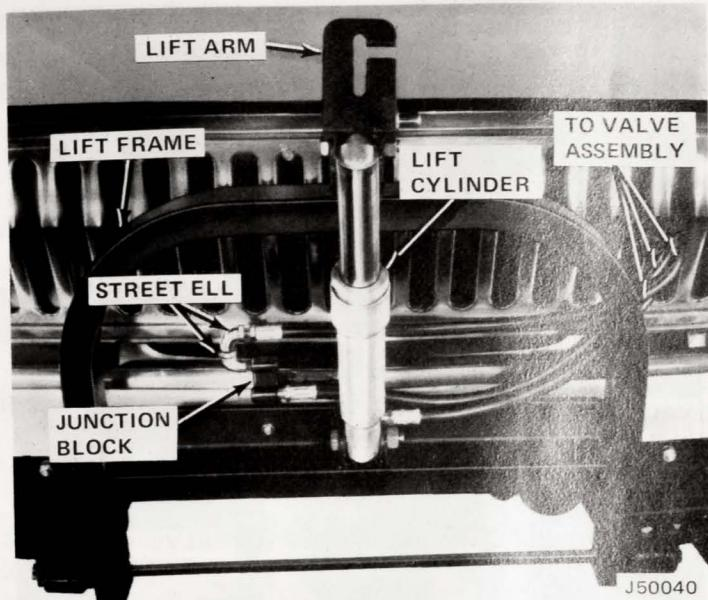
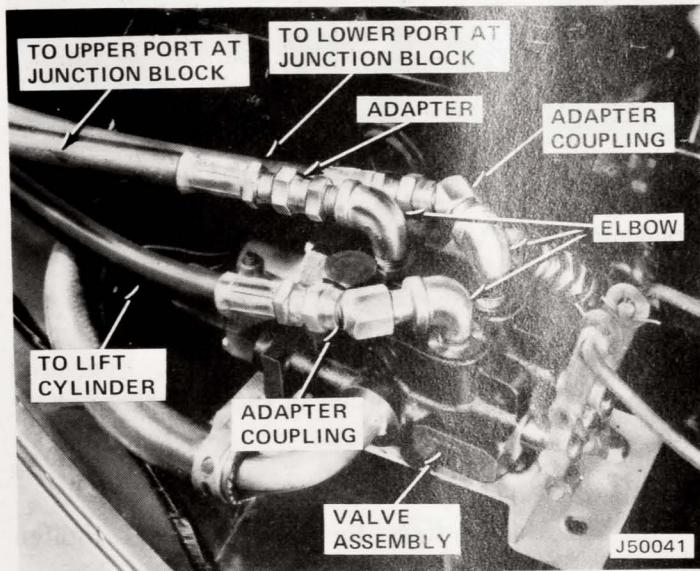
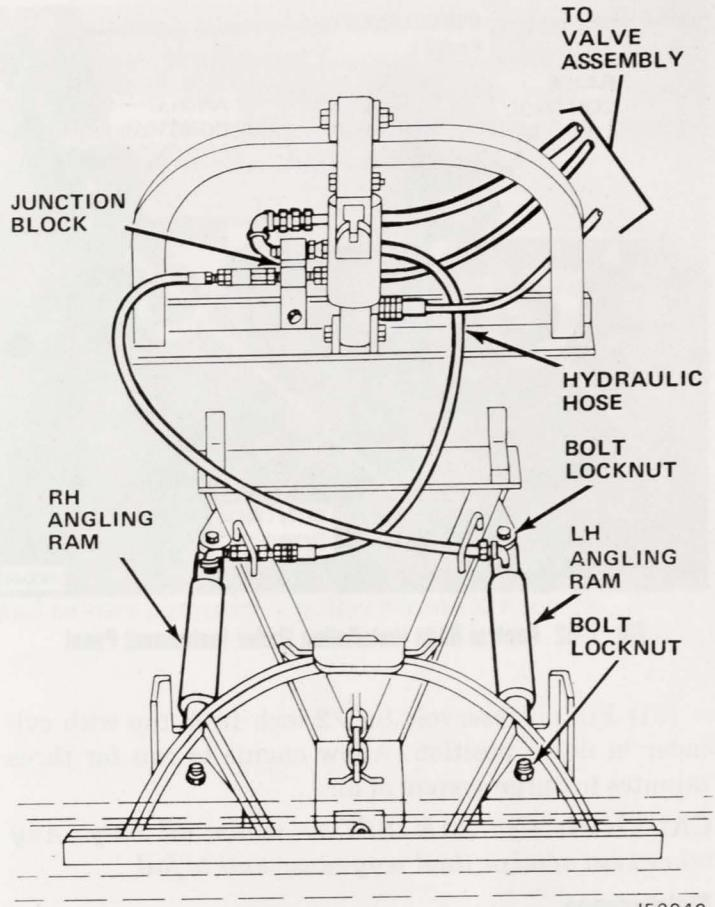

Fig. 1-58 Lift Cylinder and Junction Block Installation
Fig. 1-59 Lift Cylinder and Junction Block Hose Installation
Fig. 1-60 Angling Ram and Hose Installation
(13) Install lift cylinder, lift frame, and lift arm, using two bolts and locknut (fig. 1-58).
(14) Position junction block on right side of lift frame angle and drill one 3/8-inch hole. Secure with bolt, lockwasher, and nut.
(15) Install street ells in upper right opening in junction block (fig. 1-58).
(16) Drill holes in front end sheet metal and insert grommets for routing of hoses from junction block and lift cylinder to valve assembly.
(17) Install three elbows, two adapter couplings, and adapter at valve assembly (fig. 1-59).
(18) Route hoses from lift cylinder and junction block through grommets in front end sheet metal to valve assembly and connect.
(19) Install angling rams on A-frame and sector assembly (fig. 1-60).
(20) Install two nipples, one into right angling ram and one into bottom of junction block (fig. 1-60).
(21) Install 90-degree elbows on angling rams.
(22) Install couplers, one to nipple on right angling ram and one to nipple on valve block.
(23) Install hydraulic hoses to angling rams and junction block (fig. 1-60).